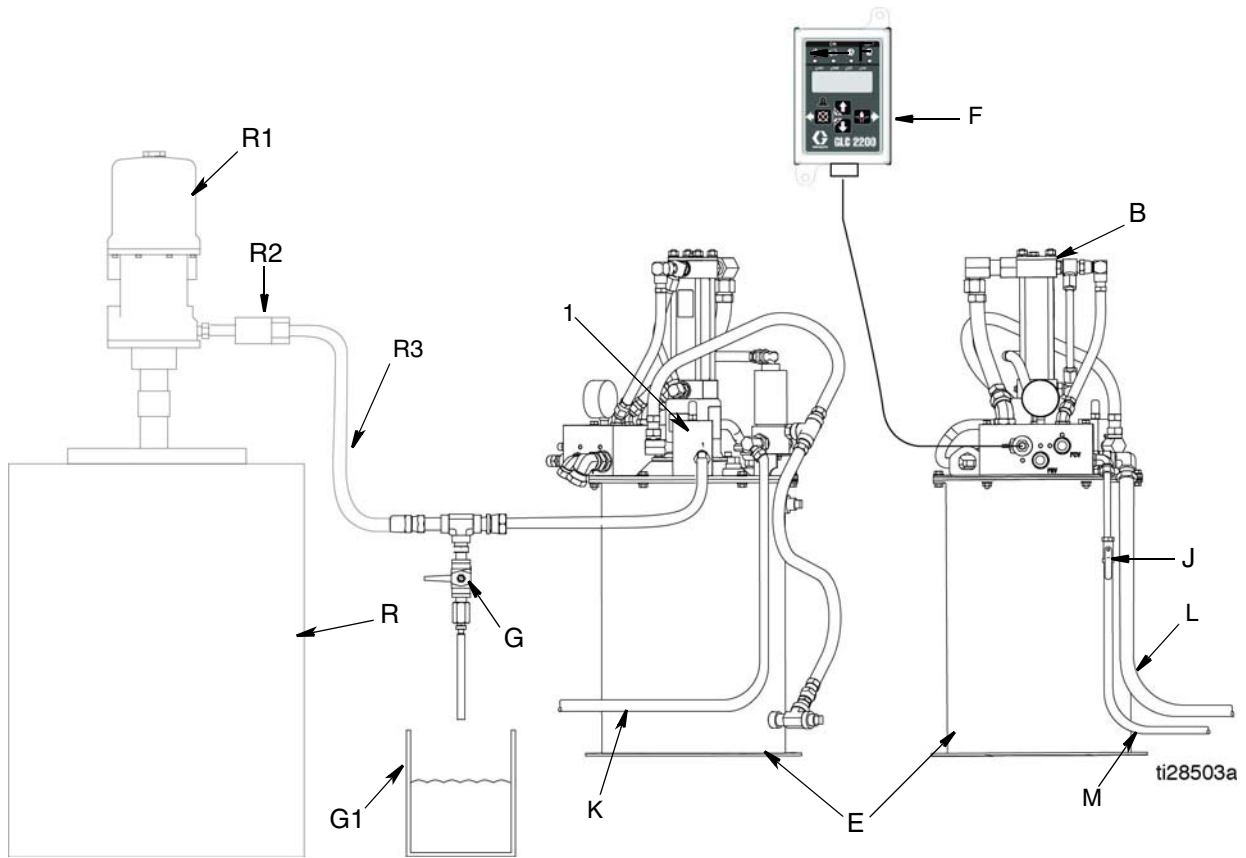

FIG. 4
1. Disable hydraulic supply to Pump (B) by isolating it from the high pressure hydraulic supply using Ball Valve (J).
- Cycle the timer [lubrication controller (F), (FIG. 4, page 7)] to open the 3-way solenoid valve to reduce trapped hydraulic pressure.